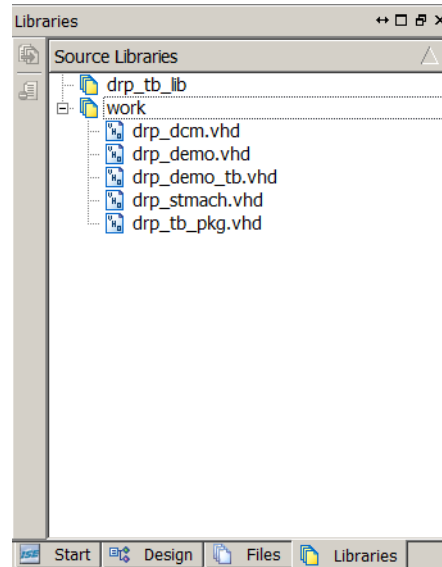

Figure 2-5: Libraries Panel
2. Expand the `/work` library (see Figure 2-5.)